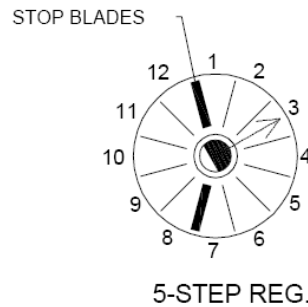

Figure 8: 5-Step regulator Switch Stops
- a. Carefully place one of the Switch Stops in the slot between 1 and 12 as marked on the switch as shown in Figure 8. Insert the other Switch Stop in between 7 and 8.